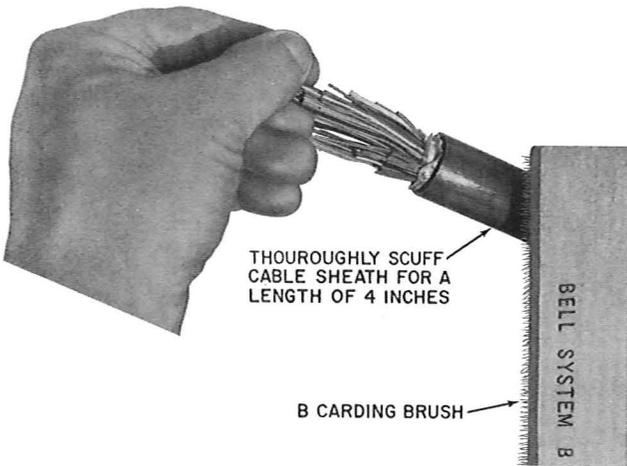

Fig. 6—Scuffing Sheath
- (4) With a carding brush, thoroughly scuff the sheath for 4 inches from the end (Fig. 6).